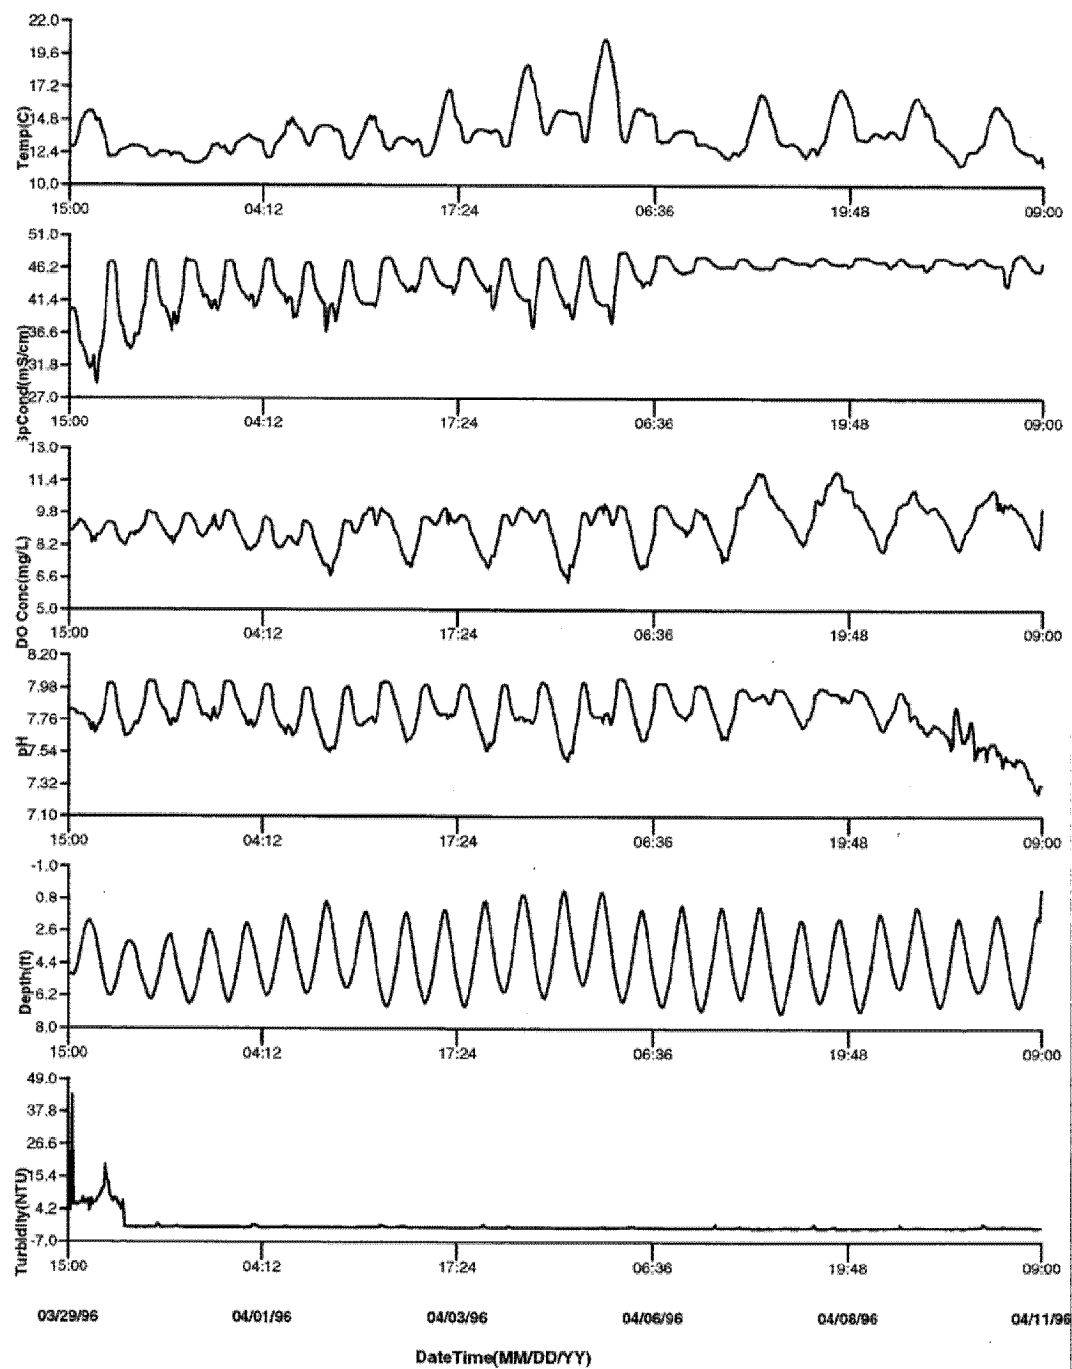

FIGURE 9
- (1) the presence of a large quantity of debris such as algae or *Spartina*,
- (2) animals in the probe compartment,
- (3) the wiper parking over the optics, or
- (4) when there are actual turbidity values that the sensor is experiencing that are very high or > 1000 NTU (greater than the range the probe can measure). This is a real event that the probe is experiencing and is not an error. Figure 9 shows that after a failure of a water control structure (see water level values before 14/07/96 0:00) which released a huge volume of water into the